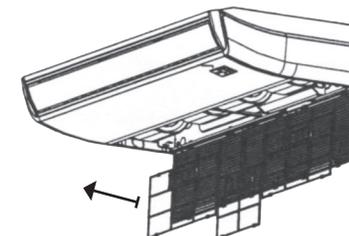

FIG. 6-3
- Directly pull out the air filter from air inlet as indicated in Fig.6-3.
- Re-install the air filter in the reverse order of Fig.6-3.